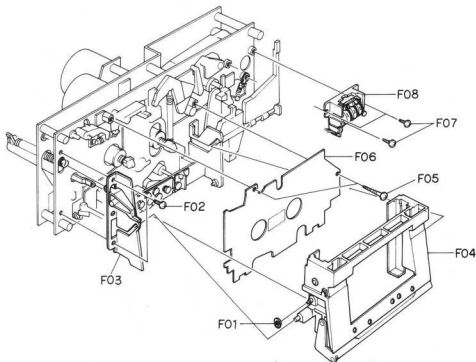

Fig. 3.6
Refer to Fig. 3.6.
- (1) Refer to Fig. 3.6. Remove Cassette Case Ass'y referring to item 3.17.
- (2) Remove F01, then disassemble F02 (Head Mount Base Ass'y).